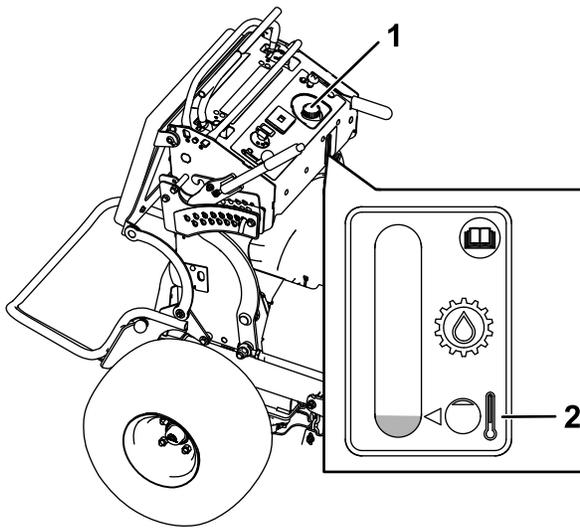

Figure 70
5. Remove the cap from the filler neck (Figure 70).